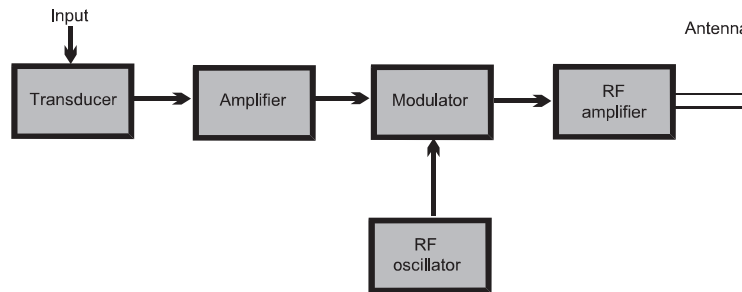
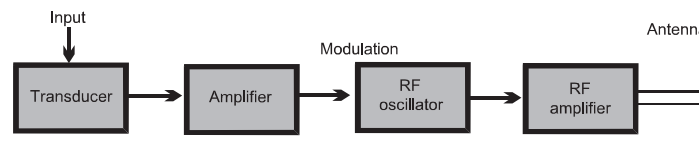

FIGURE 31.9 A block diagram of a radio transmitter. The modulator mixes the signal with the oscillator output to produce a modulated carrier wave.
FIGURE 31.10 In simpler designs of transmitter the signal from the amplifier acts directly on the oscillator circuit to modulate its output.
The main stages of a typical radio transmitter are illustrated in Figure 31.9 (see also Figure 31.10). It normally comprises the following stages:
- **Amplifier:** The signal from the transducer may have insufficient amplitude, so it needs amplification at this stage. Usually this stage is an audio frequency amplifier, but an amplifier with wider bandwidth is needed for video transmissions and for high speed digital data links. Figure 31.10 does not show an encoder, but there might be one at this stage.
- **Modulator:** This takes the amplified signal and modulates it on to the output of the radio frequency oscillator. In an amplitude modulated (AM) transmitter, the modulator often consists of a special multiplying IC. This has two inputs. One input (the carrier) is
multiplied by a varying amount determined by the instantaneous voltage at the other input (the signal). The output of the IC is the amplitude-modulated carrier. In a simpler system of amplitude modulation there is no modulator as such, as shown in Figure 31.10.